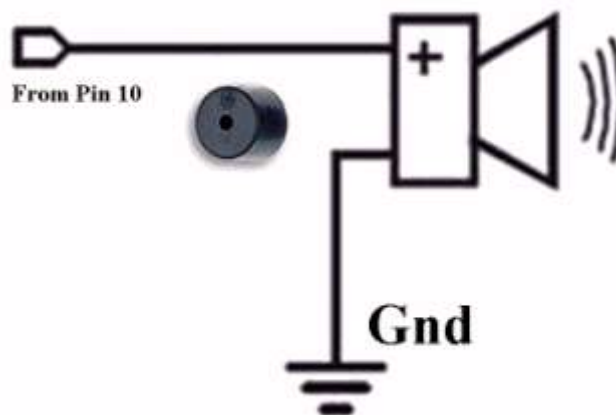

Figure 7: Schematic for a Piezo speaker to be added to our hardware.
In order to achieve the above, we of course need to develop the protocol on the Arduino. While doing so we shall combine the hardware we used as shown in Figures 2 and 4. Additionally we shall add a Piezo speaker connected as shown in Figure 7.
- A Piezo Speaker connected as in Figure 7 to Pin 10 to be driven using the Arduino frequency generation facility (`tone()`).